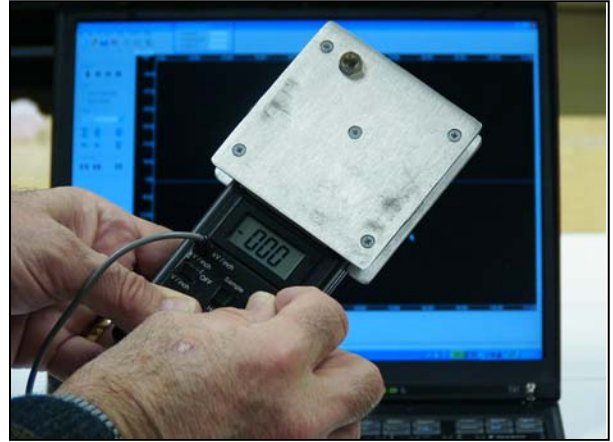

Figure 46: Ground the Charge Plate Monitor and Confirm the zero (0) reference setting
1. Confirm the Charge Plate Monitor (CPM) is zeroed and floating (Figure 46).
1. Confirm the Charge Plate Monitor (CPM) is zeroed and floating (See Figure 46, above).